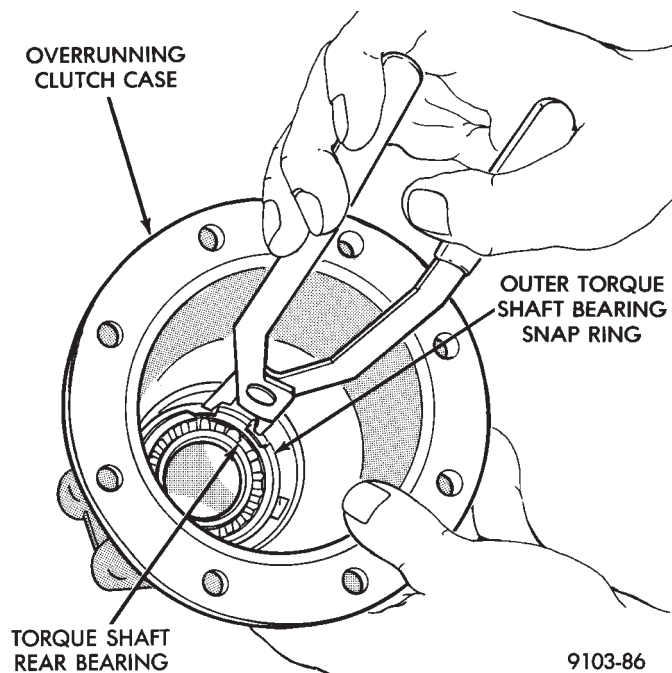

Fig. 9 Torque Shaft Rear Bearing Snap Ring
- (3) Remove overrunning clutch cover assembly.
- (4) Drain fluid from overrunning clutch case.
- (5) Remove overrunning clutch case to differential carrier bolts.
- (6) Separate overrunning clutch case from differential carrier case.
- (7) Remove overrunning clutch inner race snap ring.
- (8) Slide overrunning clutch inner race off of shaft.
- (9) Remove shaft snap ring and slide dog clutch off of the shaft.
- (10) Remove torque shaft rear bearing inner snap ring.
- (11) Remove torque tube retaining bolts.
- (12) Separate overrunning clutch case from torque tube.
- (13) Remove rear bearing retaining snap ring in overrunning clutch case (Fig. 9).